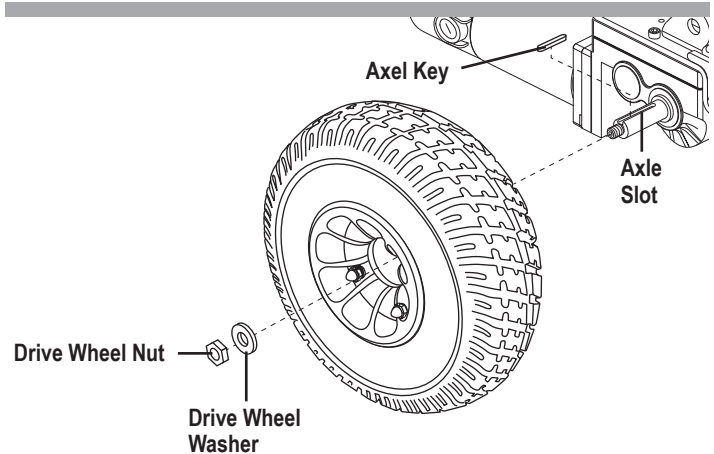

Figure 22. Pneumatic Drive Wheel Removal
5. Remove the drive wheel nut and washer from the axle. See figure 22 or 24.